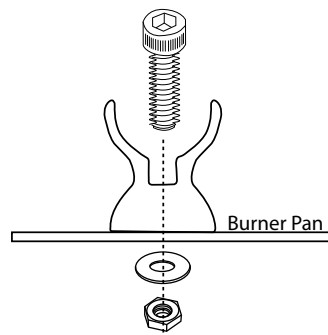

Fig. 9 Shows assembly of burner support to pan.
Step 5: Drill (4) 1/4" holes into the burner pan to attach the burner supports. See Fig. 9.